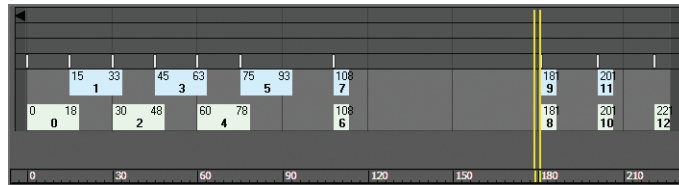

FIGURE 13.11 Create a key gap to get your biped airborne.
8. Select the last four jump keys and drag them to the right to create a gap approximately 30 frames wide, as shown in Figure 13.11. Doing so will cause the biped to be airborne for about one second.